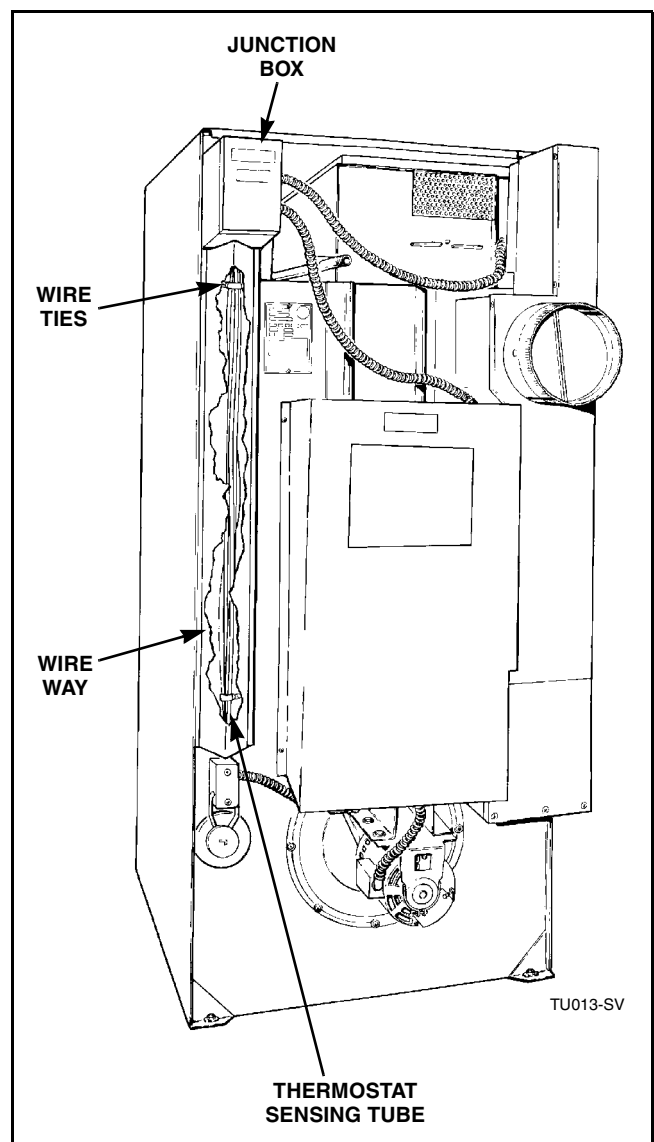

Figure 11
- Remove wire-way attaching screws. Refer to *Figure 11*.
- Remove junction box cover attaching screws. Refer to *Figure 11*.